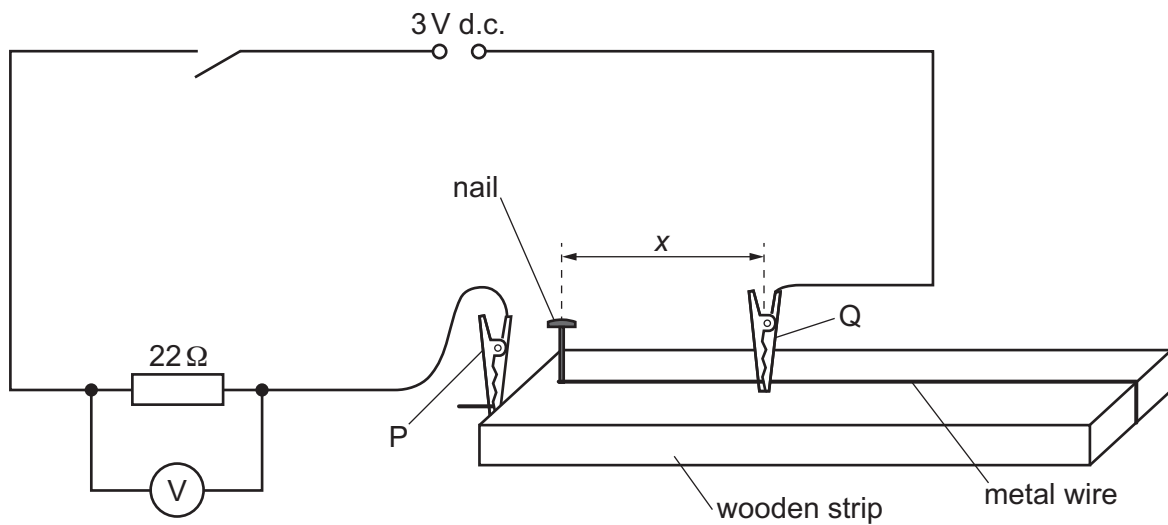

Fig. 1.2 (not to scale)
- Set up the circuit shown in Fig. 1.2.
The distance between the nail and Q is  $x$ , as shown in Fig. 1.2.